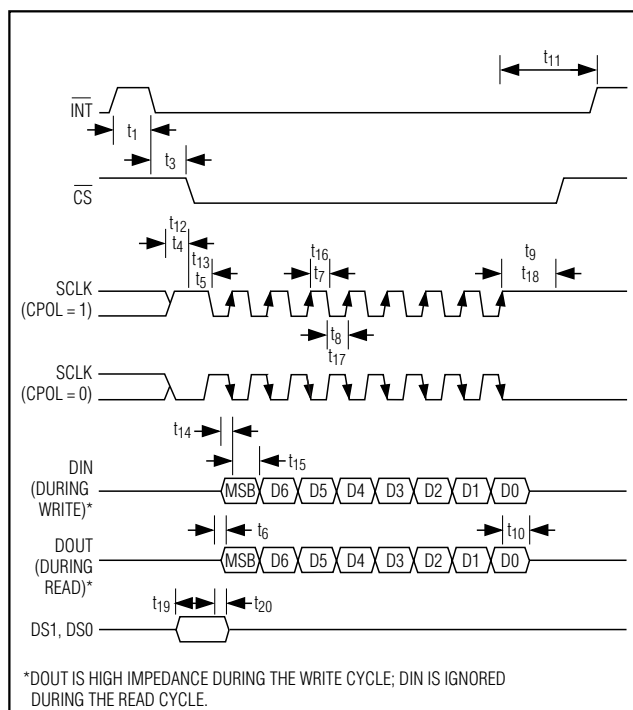

Figure 4. Serial-Interface Timing
**Note 21:** See Figure 4.
The serial interface consists of five signals:  $\overline{CS}$ , SCLK, DIN, DOUT, and  $\overline{INT}$ . Clock pulses on SCLK shift bits into DIN and out of DOUT.  $\overline{INT}$  provides an indication that data is available.  $\overline{CS}$  is a device chip-select input as well as a clock polarity select input (Figure 4).